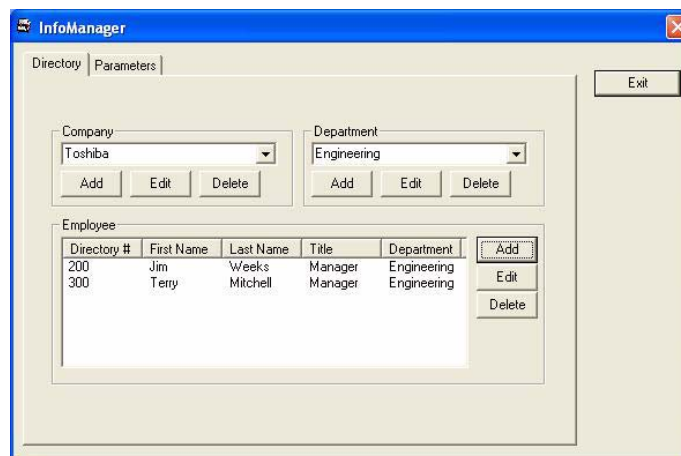

Figure 3-1 Directory Tab Screen (with sample data)
1. From the Directory Tab Screen (see Figure 3-1 on page 3), click Add in the Company section of the screen. The Company screen displays (shown right).